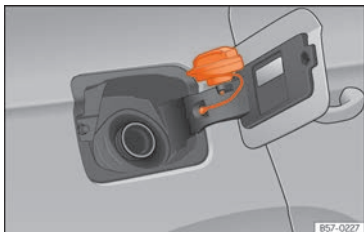

Fig. 303 Fuel tank flap with tank cap attached.
- Place it in the space on the hinge of the open flap »» Fig. 303.